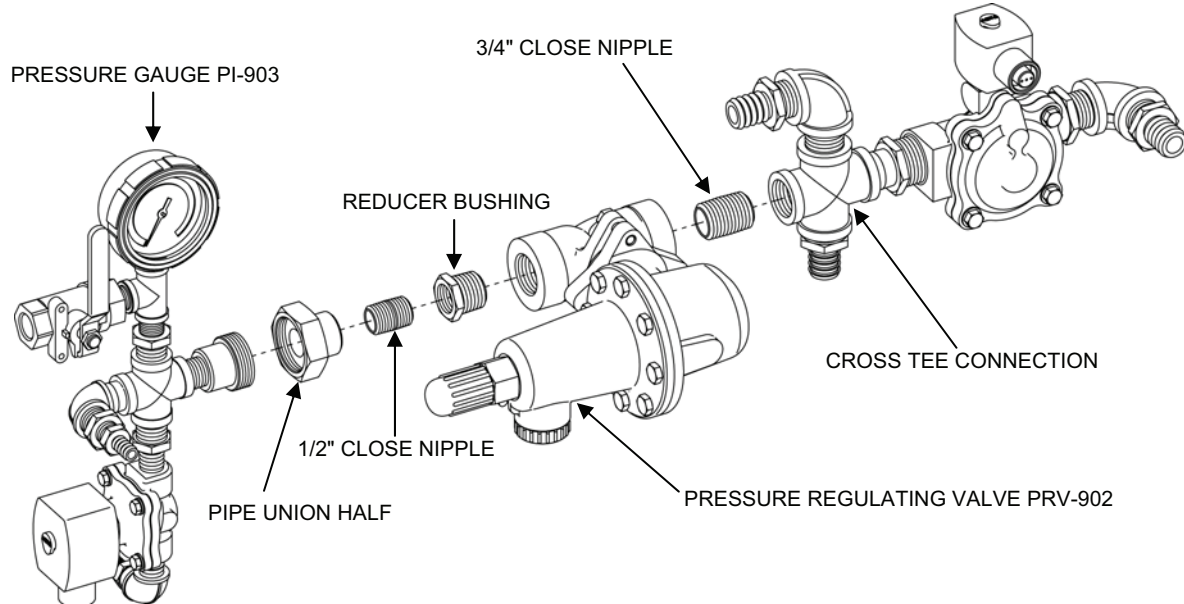

Figure 4. Pressure Regulating Valve PRV-902.
3. Remove Pressure-Regulating Valve PRV-902 from the Air System Section 3 assembly as follows (see Figure 4):
- b. Make sure that the position of the new pressure-regulating valve matches that shown in Figure 4.
- f. Make sure the position of all components match Figure 4.